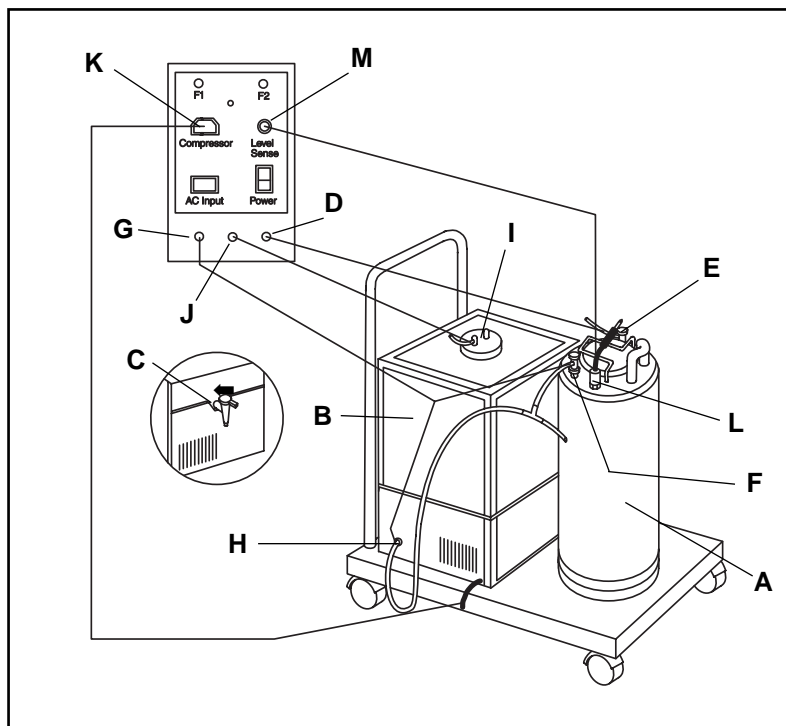
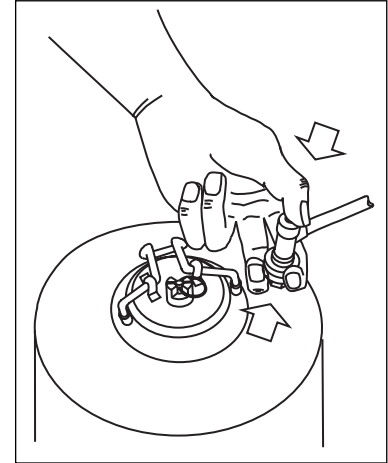

Figure 2.5
Figure 2.6
After removing the wash and waste cart (Figure 2.5) from its carton:
5. Connect the water canister to the PPC using the tubing with black connectors as follows (Figure 2.5):
- Connect the black quick disconnect to the connection labeled “WATER” on the left side of the PPC (D).
- Connect the other end of the tubing to the connection labeled “WATER” on the water canister (E). Raise the ring around the bottom of the connector as you press it into the water connection (Figure 2.6).
6. Connect air compressor to the water canister and PPC using the tubing with white connectors as follows (Figure 2.5):
- Connect the gray connector on the short piece of tubing attached to the “T” assembly onto the water canister connection labeled “AIR” (F). Raise the ring around the bottom of the connector as you press it onto the air connection (Figure 2.6).
- Connect the quick disconnect on the longer length of tubing to the connection labeled “AIR” on the left side of the PPC (G).
- Connect the quick disconnect on the shorter length of tubing to the base of the compressor on the wash cart (H).
7. Connect the waste container to the PPC using the tubing with the yellow connectors as follows (Figure 2.5):
- Connect one quick disconnect (with right angle) to the yellow connector on the tubing attached to the waste container lid (I).
- Connect the other quick disconnect to the yellow connection labeled “WASTE” on the left side of the PPC (J).
9. Connect the water level sense cable to the water canister and PPC as follows (Figure 2.5):
- Connect the cable to the plug on the water canister labeled “LEVEL SENSE” (L).
- Plug the metal connector on the cable outlet labeled “LEVEL SENSE” on the left side of the PPC station (M). Make sure it is completely and firmly inserted.